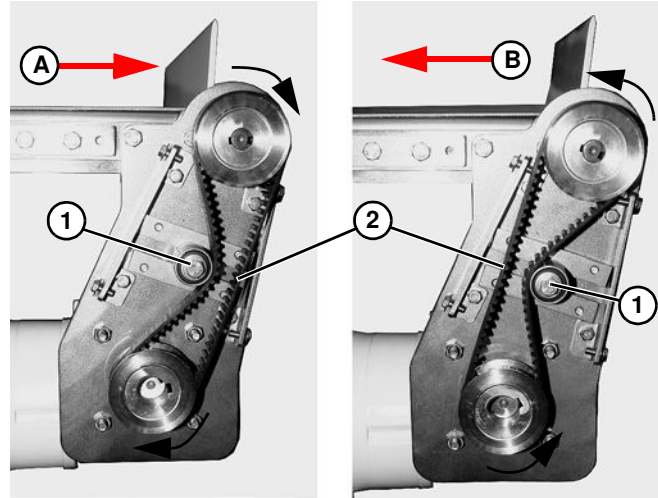
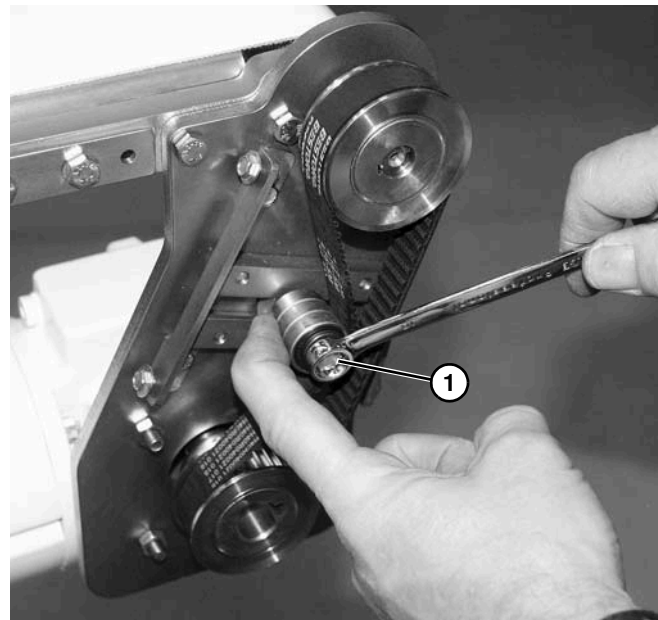

Figure 45
Figure 46
7. Depending on conveyor belt travel (direction A or B of **Figure 45**), locate timing belt tensioner (**Figure 45, item 1**) as shown. Tension timing belt to obtain 3 mm (1/8") deflection for 4.3 N (1.0 lb) of force at timing belt mid-point (**Figure 45, item 2**). Tighten tensioner screw (**Figure 46, item 1**).